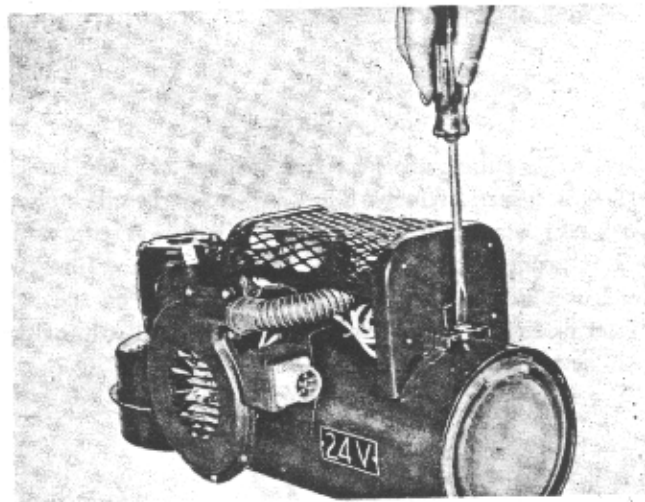
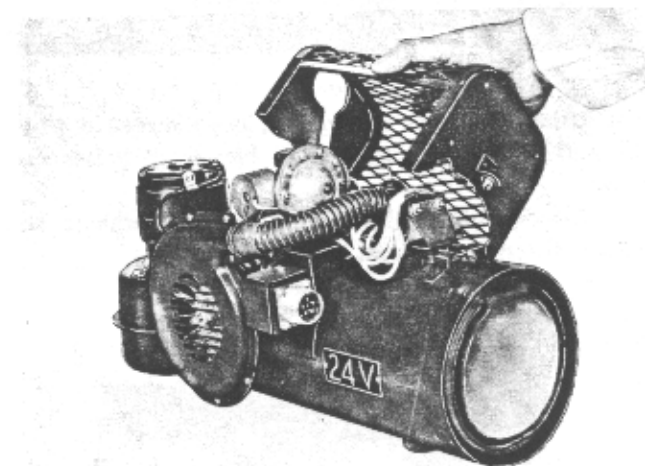

Figure 24
Figure 25
1. Turn the two Dzus fasteners, located at each end of cover, counter-clockwise with screwdriver (Figure 24); and remove cover (Figure 25).